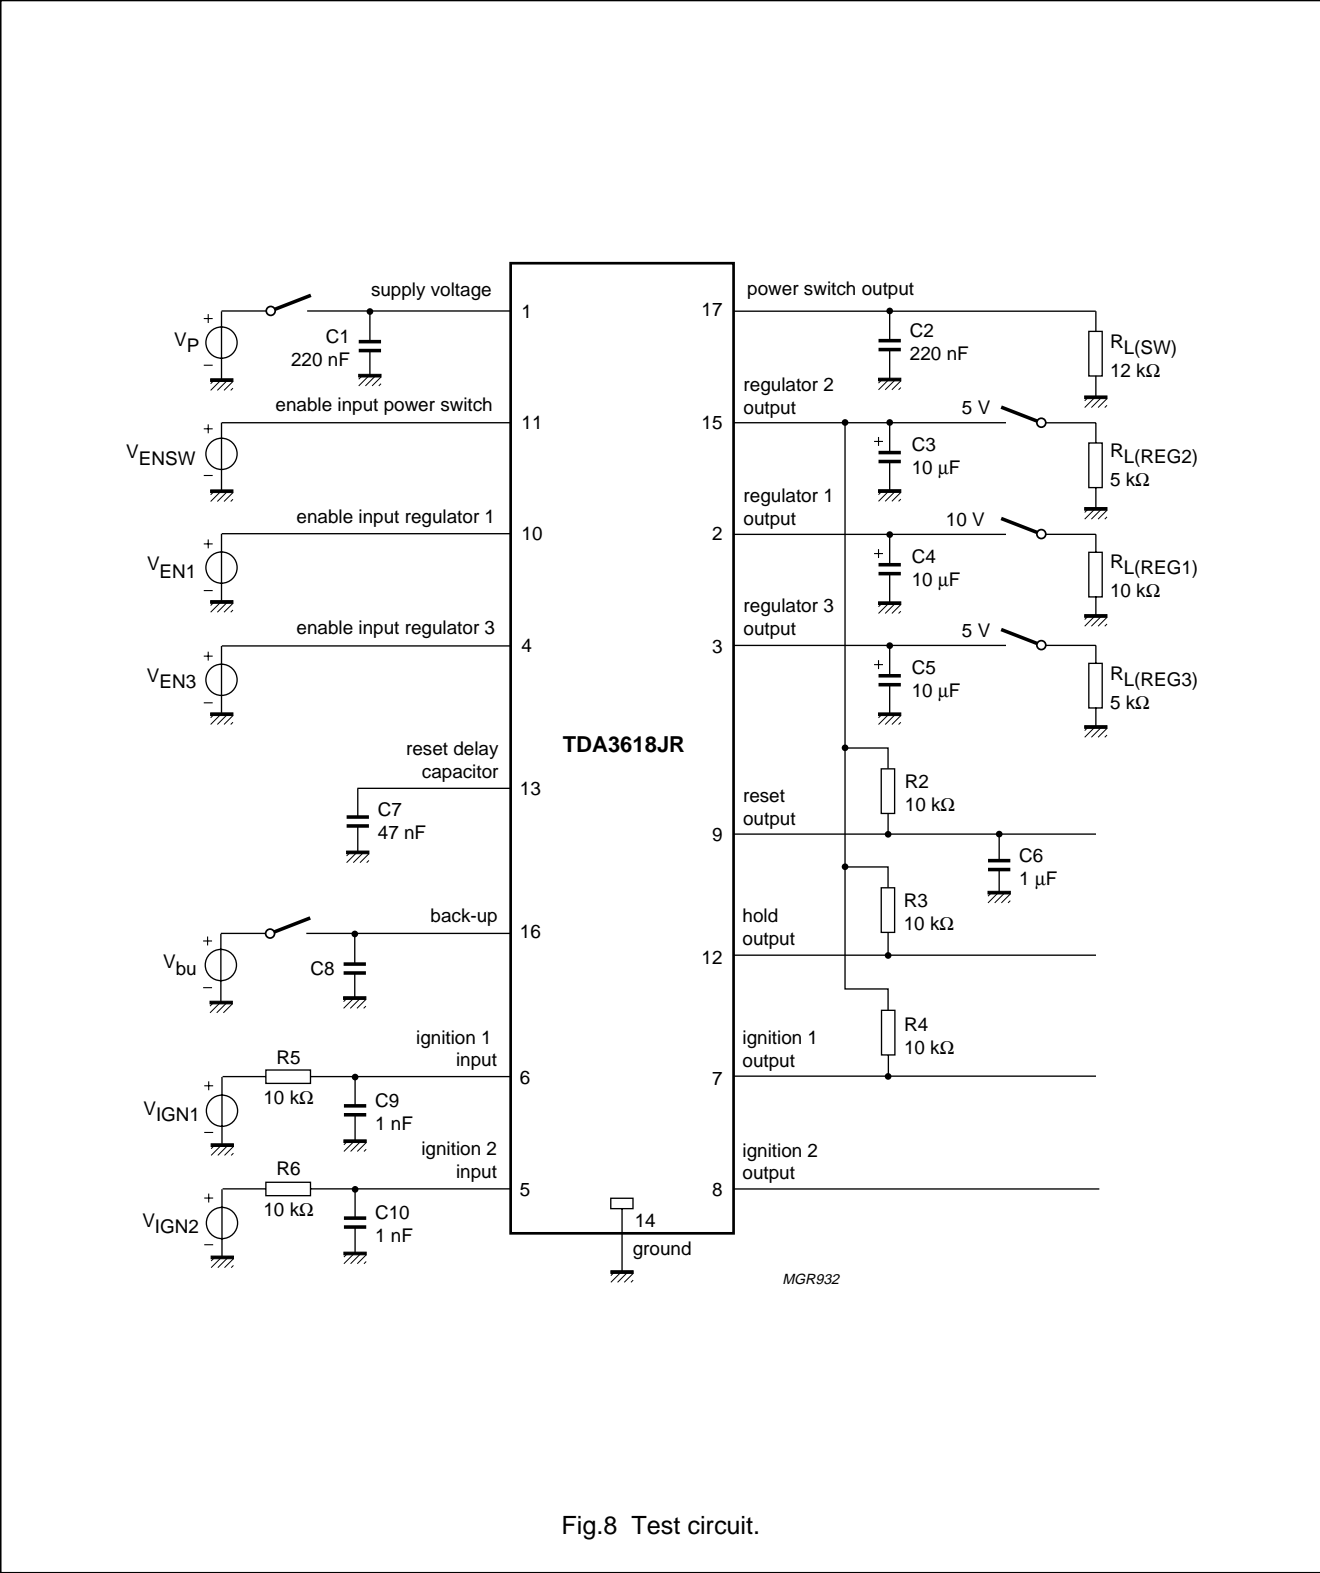

Fig.8 Test circuit.
- The quiescent current is measured in the standby mode. Therefore, the enable inputs of regulators 1, 3 and the power switch are grounded and R_{L(REG2)} = ∞ (see Fig.8).